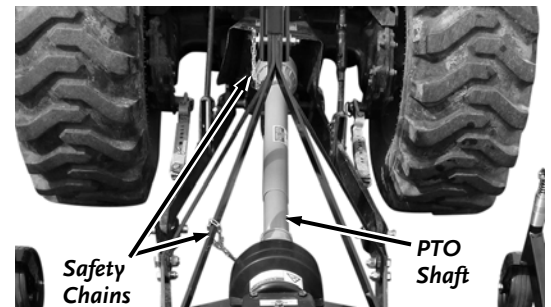

Figure 32
3. Attach the PTO Shaft Safety Chains around a solid area of the 3-Point Link Rods with the Chain ends attached to both ends of the PTO Shaft Guard (**Figure 32**). Make sure the Chain has enough slack in the full range of the Tractor 3-Point Arm travel.